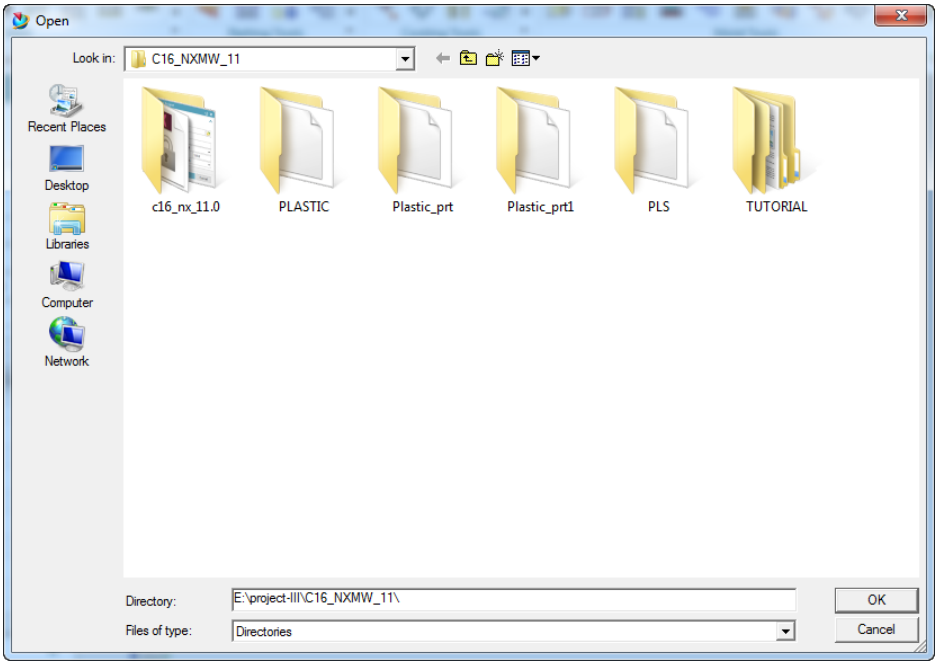

Figure 16-92 The *Open* dialog box
3. Choose the **Browse** button from the **Path** area of the **Project Settings** rollout; the **Open** dialog box is displayed, as shown in Figure 16-92. After setting the path of the project, choose the **OK** button to close the dialog box.